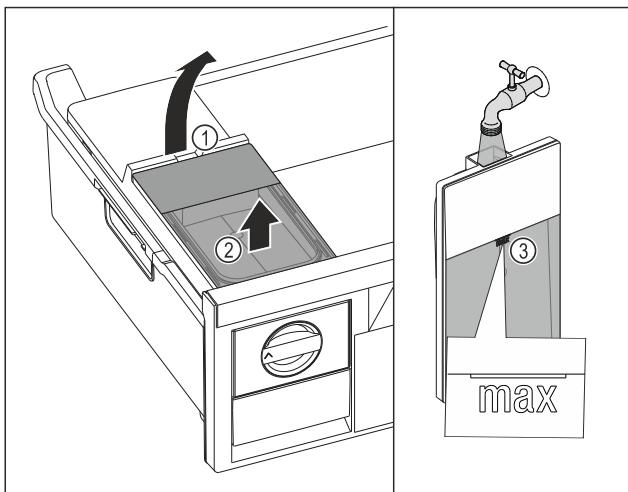

Fig. 70
- ▶ Lift the water tank at the recess Fig. 70 (1).
- ▶ Remove the water tank by lifting it upwards. Fig. 70 (2)
- ▶ Fill the water tank with drinking water up to the mark Fig. 70 (3).